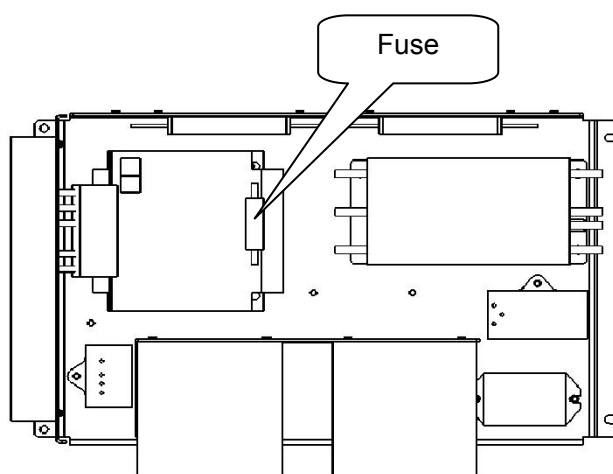

Figure 14-10-2 Top View of AC Input Unit
2. Replace the fuse with a new one. The fuse is mounted at the position shown in Figure 14-10-2.